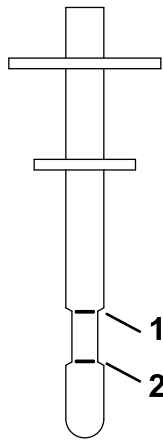

Figure 2
7. Place the dipstick into the filler neck, remove it, and check the fluid level (Figure 2).